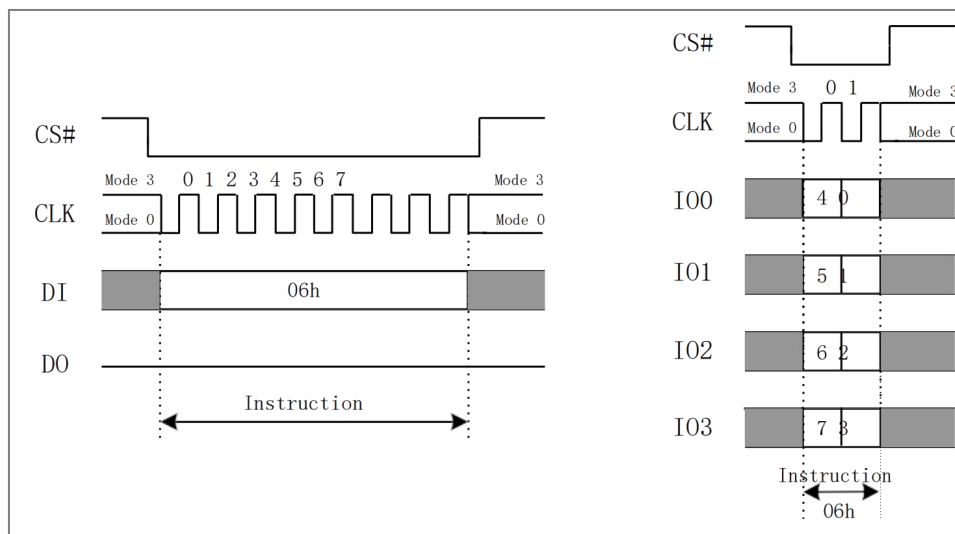

Figure 8.2 Write Enable Instruction (SPI or QPI Mode)
The Write Enable instruction (Figure 8.2) sets the Write Enable Latch (WEL) bit in the Status Register to a 1. The WEL bit must be set prior to every Page Program, Sector Erase, Block Erase, Chip Erase and Write Status Register instruction. The Write Enable instruction is entered by driving CS# low, shifting the instruction code “06h” into the Data Input (DI) pin on the rising edge of CLK, and then driving CS# high.